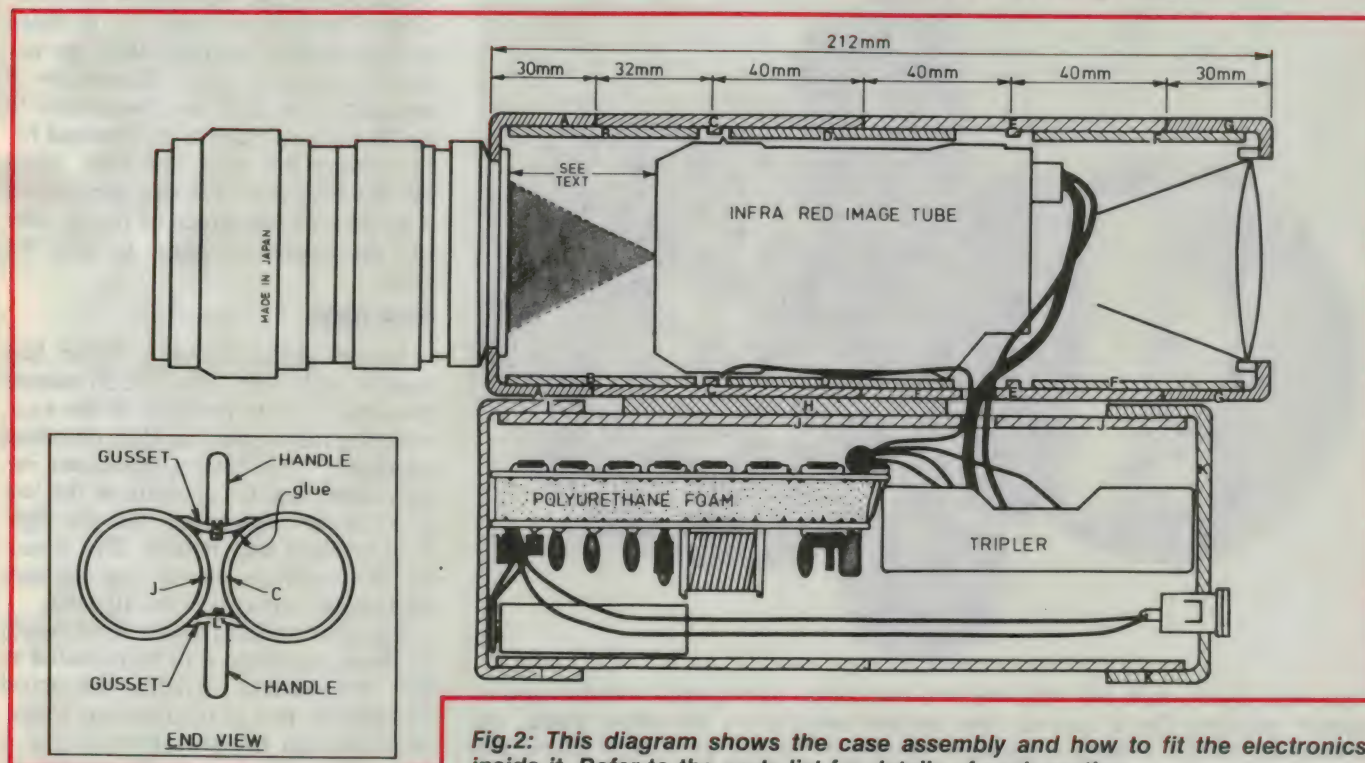

Fig.2: This diagram shows the case assembly and how to fit the electronics inside it. Refer to the parts list for details of each section.
After construction, the assembly is sprayed with a black enamel paint, giving a final result that is not far short of excellent. As the photos show, a single handle was fitted to the case, but we suggest fitting two handles attached to the gussets described as parts L and M in Fig.2. This will allow for left- or right-handed use, and the infrared torch can be attached to the unused handle.
Construction is mainly a matter of following the diagram of Fig.2. The procedure to construct the case is basically as follows:
5. Drill hole for wires between the barrels as shown in Fig.2.
Once the paint is dry, the electronics can be fitted as shown in Fig.2. To allow it all to fit, cut the board as described in the original article and fold the two PCB sections to form a sandwich, with a piece of polystyrene foam in between each board. Now attach the ground wire to the cathode end of the IR tube (front of IR tube) and carefully slide the tube of part B (65mm length) over the IR tube. File a relief slot in this tube if necessary. Next fit this assembly into the joiner of part C, again filing any necessary reliefs for the wire.